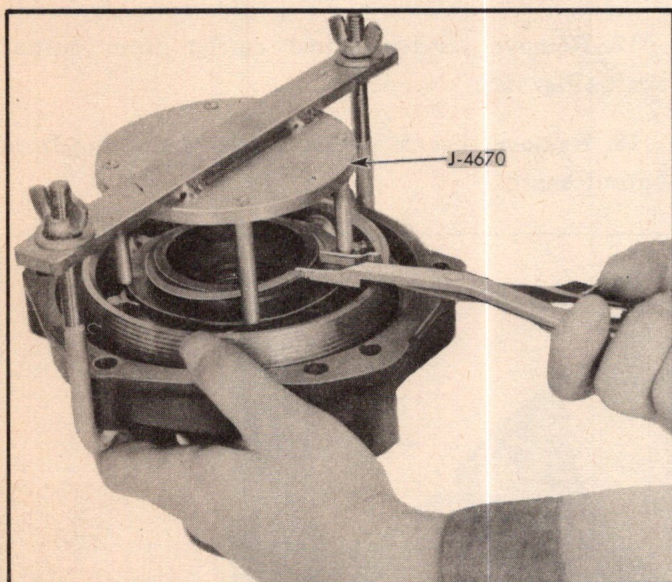

Fig. 148—Removing Large Snap Ring
7. With special tool J-4670, compress reverse cone clutch release coil springs and remove large snap ring (Fig. 148).